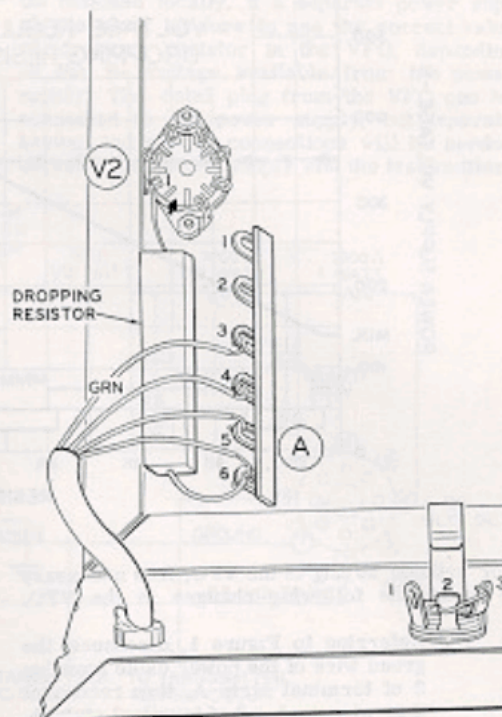
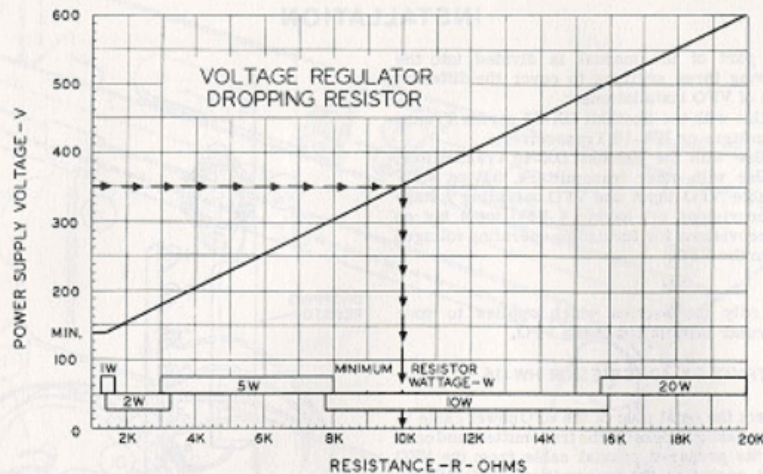

Figure 1
Figure 2
- () Disconnect the green wire of the power cable from lug 2 of terminal strip A, then reconnect this wire to lug 3 of terminal strip A. See Figure 1.
- () Clip out the bare wire connected between lugs 2 and 3 of the KEY jack. See Figure 1.
- () Referring to Figure 1, disconnect the green wire of the power cable from lug 2 of terminal strip A, then reconnect this wire to lug 3 of terminal strip A.
The value of the B+ voltage applied to the voltage regulator tube in the VFO is critical. For this reason, the value of the Dropping Resistor in series with the VR tube must be chosen to provide the correct voltage. The chart in Figure 2 should be used to determine the correct resistance and wattage of the Dropping Resistor. For example: If the B+ available from the transmitter is 350 volts, draw a line from the
350 volt point on the vertical scale across to the diagonal line of the graph. Then draw a line down from the point of intersection, to the horizontal scale. The point at which this line crosses the horizontal scale indicates the resistance value and wattage for the Dropping Resistor. This example is shown by the line of arrows on Figure 2. Do not use smaller resistance or wattage values. The correct Dropping Resistor should be installed in the VFO as shown in Figure 1. The 10 K Ω , 10 watt resistor, already in the VFO, should be removed. Figure 3 shows the VR tube and Dropping Resistor circuit schematically.